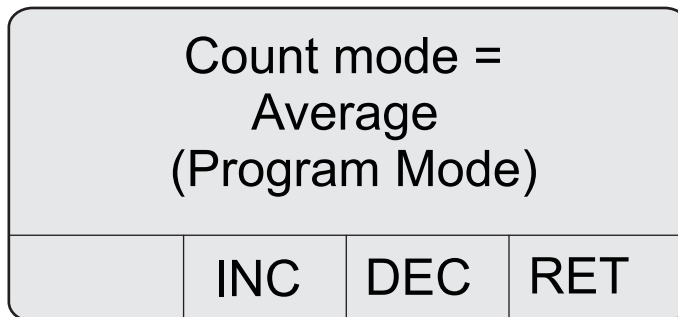

Figure 15 Count mode screen
2. Press **2 (NXT)** to display the Count mode screen (refer to Figure 15).